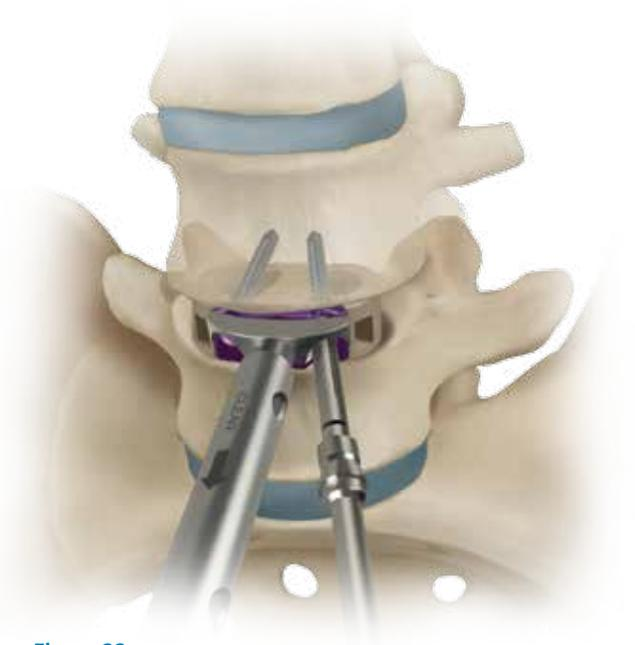

Figure 23:
- Insert the screw into the prepared screw hole (Figure 23).